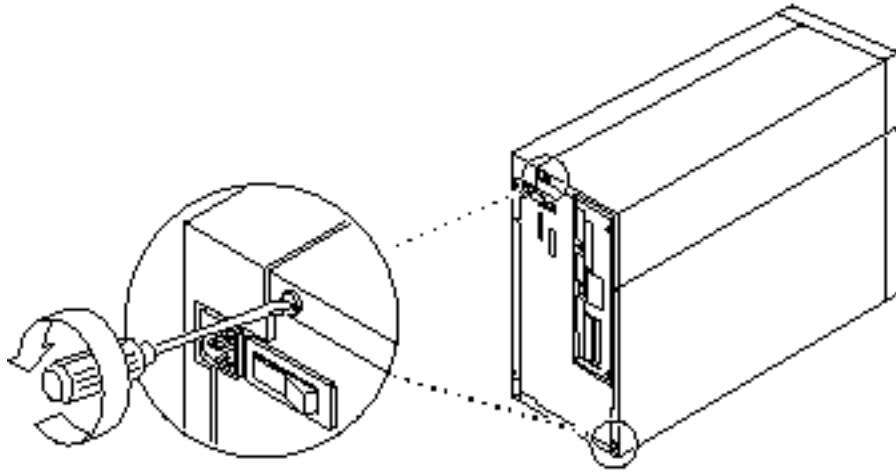

Figure 2-3 Locating the Captive Screws for the Left Outer Panel
1. Loosen the two Phillips-head captive screws on the left outer panel at the rear of the Netra 150 server (Figure 2-3).